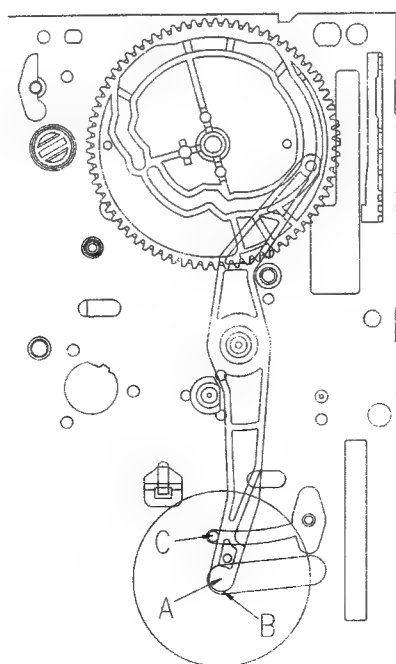

Fig. 4-2 DATUM POSITION OF RELAY LEVER & CAM GEAR
- b. Make sure that the ending part "A" of the RELAY LEVER assembled in the CONNECT PLATE is fully rotated up to the left side of "B" of the MAINBASE and is attached to the boss "C" of the MAINBASE as shown in Fig.4-2.